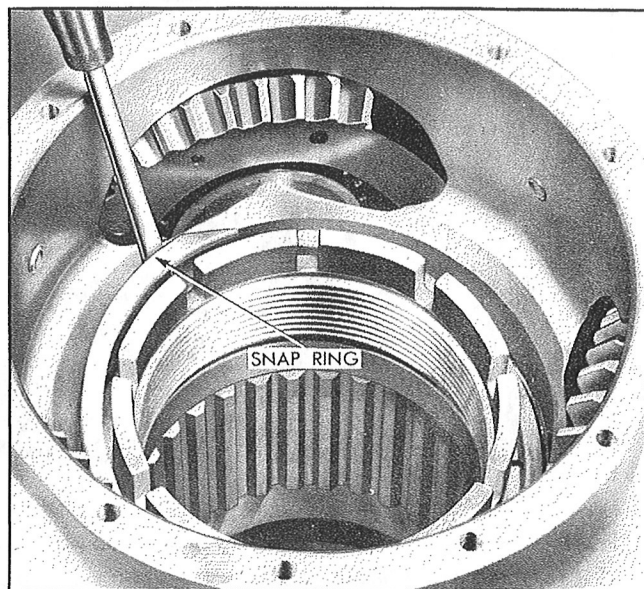

Figure 99—Removal of Shaft Nut Locking Ring
*Step 5.*—Remove the snap ring from the propeller hub bore, using a 10" screwdriver, as shown in Figure 99.